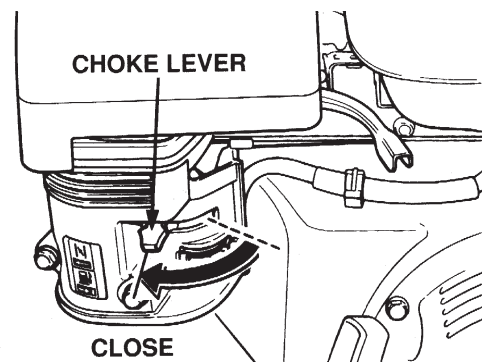

Figure 22. Choke Lever (Closed Position)
6. If operating the Cutter 3 in **cold weather conditions**, place the **Choke Lever** (Figure 22) in the **CLOSED** position.
- If the engine has started, slowly return the choke lever (Figure 22) to the **CLOSED** position. If the engine has not started repeat steps 1 through 8.
4. If operating the Cutter 3 in **cold weather conditions**, place the **Choke Lever** (Figure 22) in the **CLOSED** position.